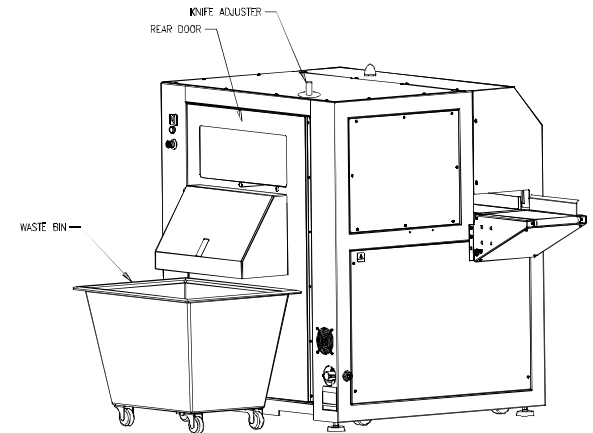

Figure 4-6. Knife Location
1. Switch off (O) main power at the front of the machine and lock out the main power disconnect switch as described in section 1.5 Power Lockout Procedure on page 1-4.
3. The knife is located behind the rear door shown in Figure 4-6.